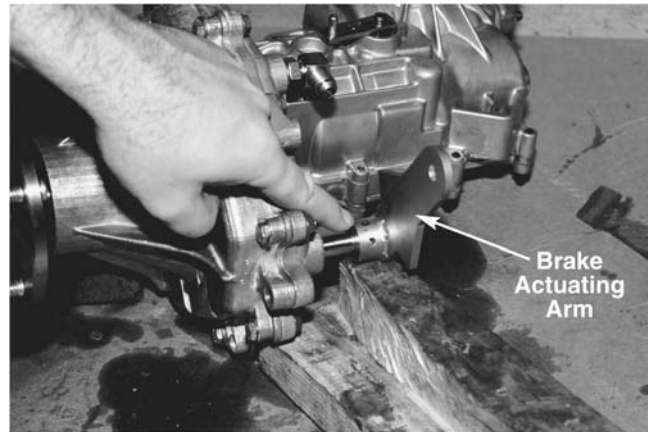

Figure 10-76.
36. Reinstall the brake actuating arm by properly bracing the shaft and driving the pin into the hole and through the shaft. See Figure 10-76.